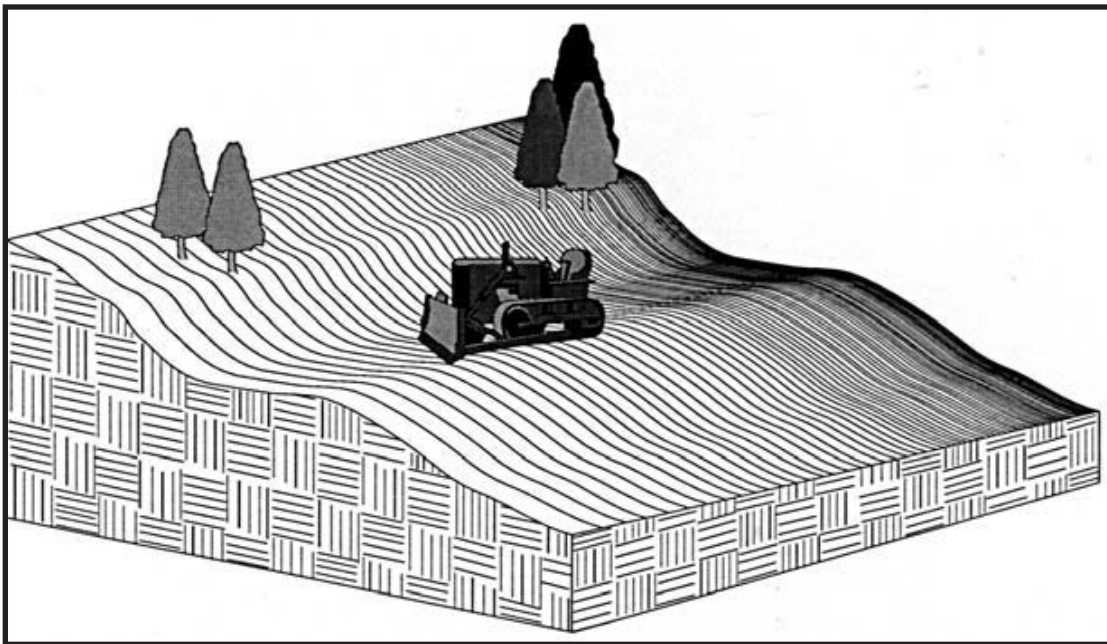

Figure 6.14 Typical Slope Break
- Construct slope breaks as shown on the grading plan, or in accordance with the recommendations of Table 6.1. A typical slope break is illustrated in Figure 6.14.